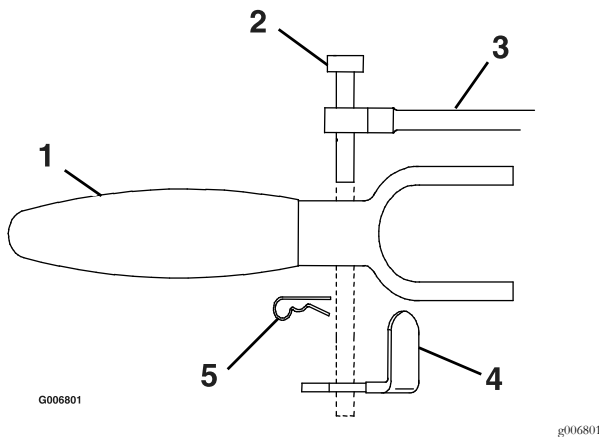

Figure 19
Allow drive levers to drop into the full forward position: The clevis pin should rest in the neutral lock latch with approximately 3/16 inch to 1/4 inch (4.7–6.4 mm) clearance from the bottom of the slot (see Figure 19). Adjust if necessary.
- A. For wheel drive linkage adjustment, remove the hairpin between the neutral lock latch and drive lever (Figure 19).
- C. Re-install hairpin into hole on the clevis pin between the neutral lock/park brake latch and drive lever (See Figure 19). Repeat procedure on opposite side of unit.